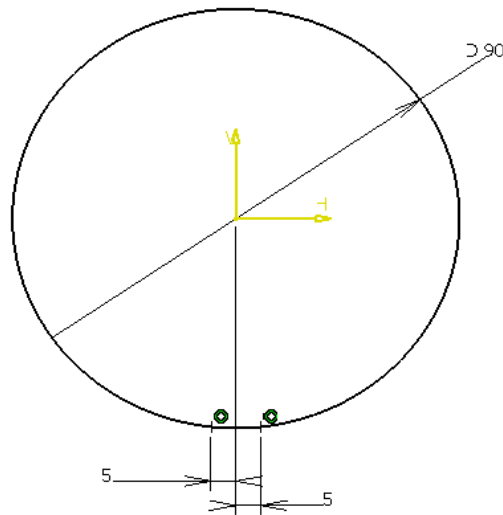

Figure 9-46 First section for the base surface
- Draw the sketches for the loft surface, refer to Figures 9-46 through 9-48.
- Place two points on the circle, as shown in Figure 9-46. These points will be used to create the guide curve and define the closing point for creating the loft surface later in this tutorial.